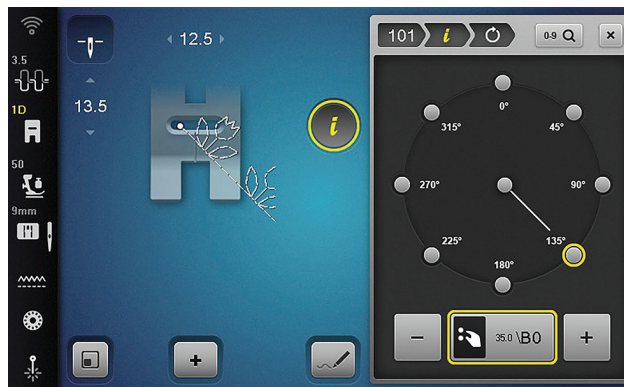

Fig. 7
3. Rotate the stitch on the compass (Fig. 7) or with the Multi-function Knobs.